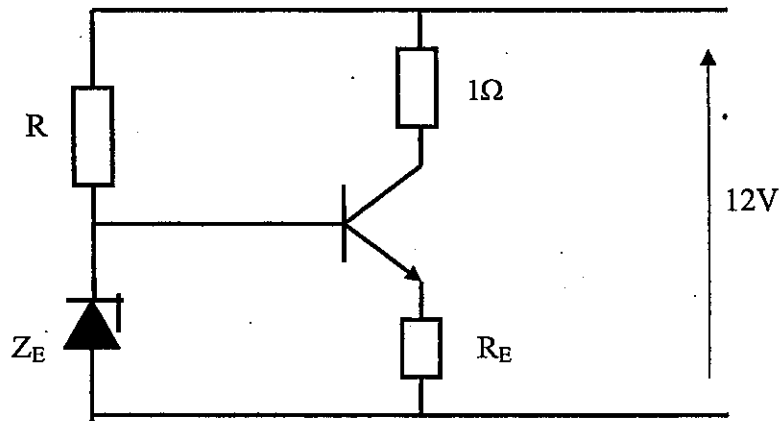

Fig Q3
- (i) the time taken after switching off for the relay to open. (6)
- (ii) the new time to close the relay if the supply voltage falls to 18V. (6)
3. Fig Q3 shows a small signal transistor biased by means of a Zener diode and a resistor. A steady voltage of 6 volts is required across the emitter resistor  $R_E$  which carries 1A.